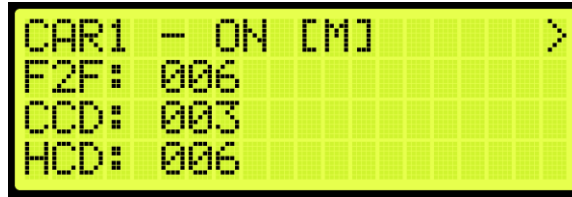

Figure 374: Dispatching Timers Status
12. From the Dispatching Timers Status (See Figure 374), press the right button.
12. From the Dispatching Timers Status (See Figure 374), press the right button..